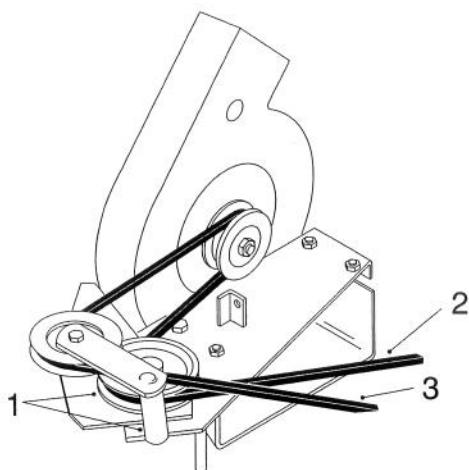

Figure 13
3. With the blower swung out in the open position, install the blower belt between the idler pulley bracket and pulley. Then loop it around the remaining pulleys (Fig. 13).